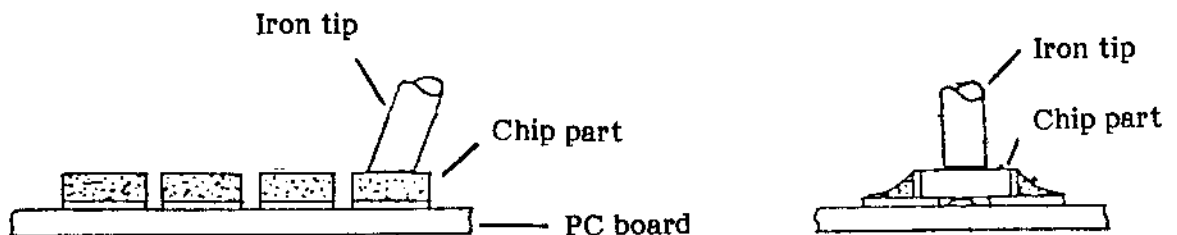

Fig. E-1 Chip Component Removal
1. Place soldering iron tip directly on component in order to melt solder and glue as shown in Fig. E-1 below. Remove component with tweezers or long nose pliers.